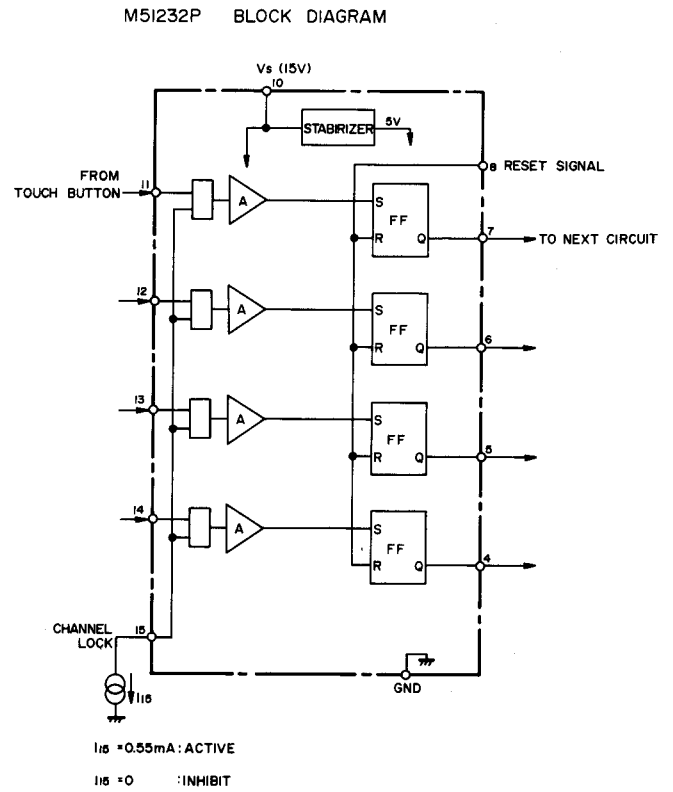

Figure 39-1
5. 2. 4 4-Channel Ganged Type (M51232P) (Refer to Figure 39-1)